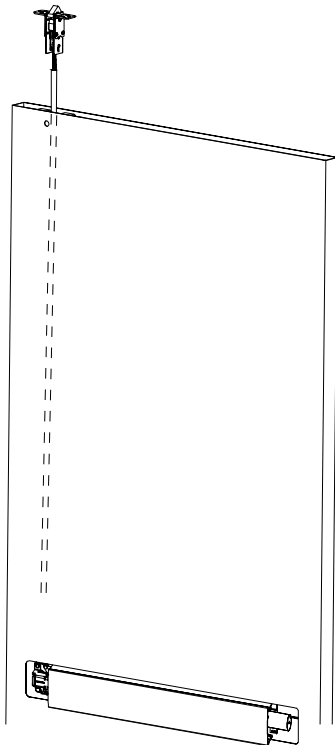
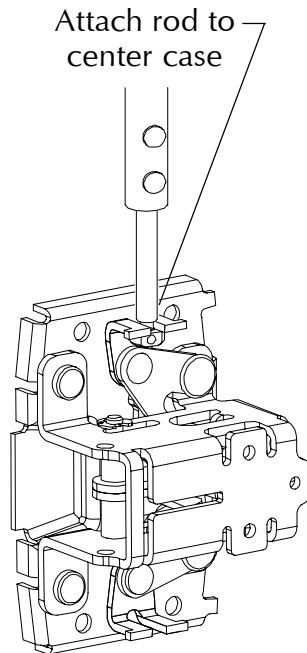

Figure 6-3
Figure 6-4
- 6.3. Slide rod and latch into prep at door top (Figure 6-3), and attach rod to center case (Figure 6-4).